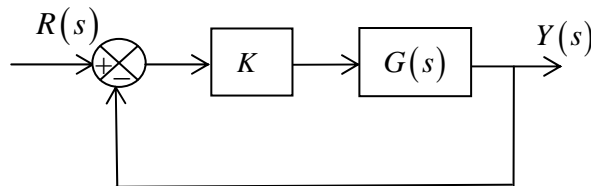

Figure 10.1
10.1 A feedback control system is as shown in Figure 10.1.